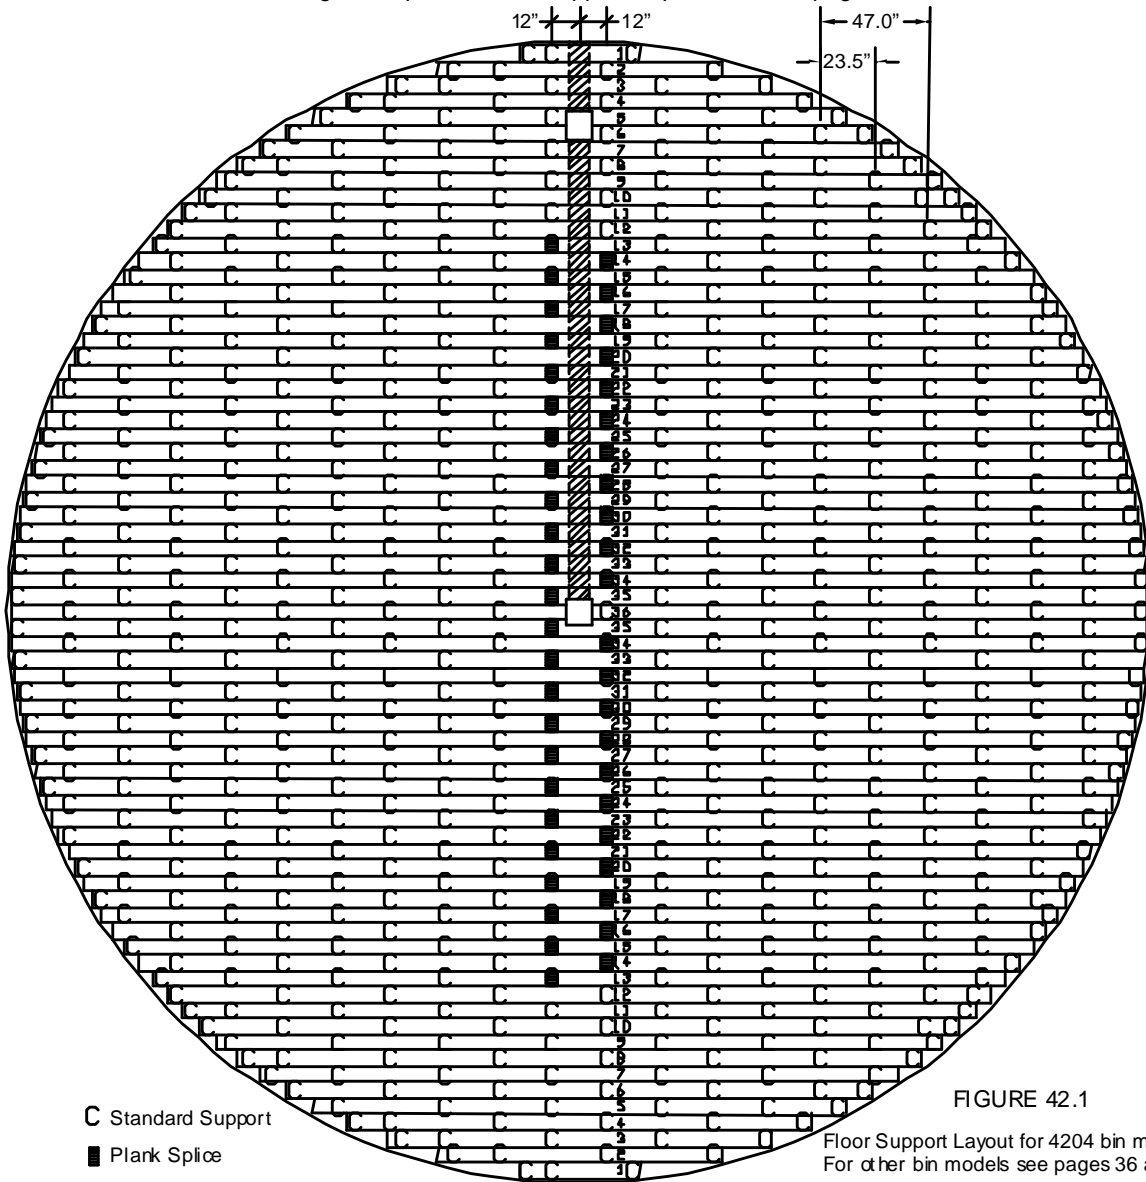

FIGURE 42.1
3. Unless otherwise noted, stagger all supports between adjacent floor planks, as illustrated in Fig. 42.1.